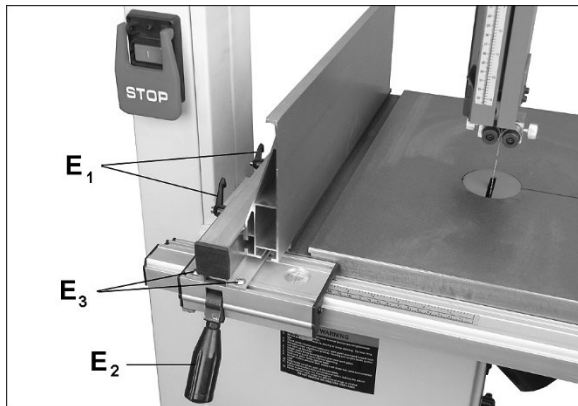

Figure 5-19
- If adjustment is needed, use the set screws which are located next to the fence body screws (E₃, Figure 5-19). Loosen the four screws (E₃) and turn any of the four adjoining set screws in or out as needed, until fence is flat against blade.
- Loosen handles (E₁, Figure 5-19) and slide fence onto bar. Tighten handles (E₁).
- Slide fence against edge of miter slot (Figure 5-19) and push down handle (E₂) to lock position. The fence should align parallel to miter slot along entire length of fence.
- If adjustment is needed, loosen four screws (E₃, Figure 5-19) and shift fence body as needed to align fence with miter slot.
- Verify that fence, top-to-bottom, lies flat against side of blade. If it does not, use the set screws which are located next to the fence body screws (E₃, Figure 5-19). Loosen the four screws (E₃) and turn any of the four adjoining set screws in or out as needed, until fence is flat against blade.
- If adjustment is needed, loosen the four screws (E₃, Figure 5-19) on the fence body and nudge fence body left or right along the tracks in the fence guide, until cursor aligns with zero when fence is against blade.